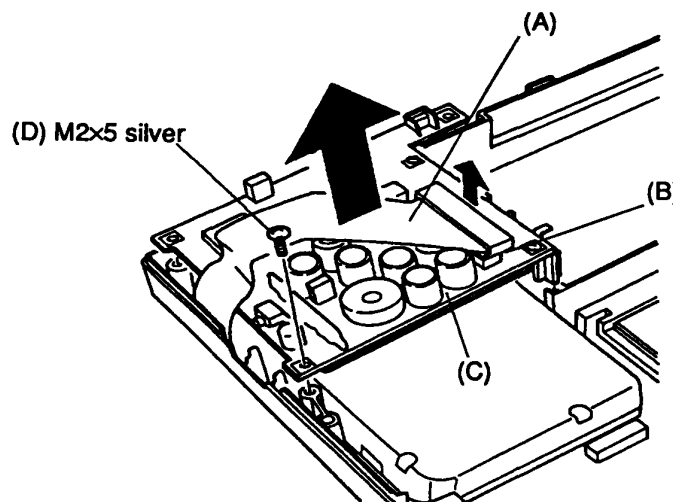

Figure 4-18 Removing the power supply
3. Disconnect the power supply cable (A) from PJ4 (B) on the power supply board (C).
4. Remove the single (M2x5 silver) screw (D) in the front left corner of power supply board that secures it to the base assembly (Figure 4-18).
1. Insert the back edge of the power supply board beneath the EXP port chassis on the system board. Then place the power supply board into position. Make sure the battery terminal connections are properly inserted into the battery case (Figure 4-18).